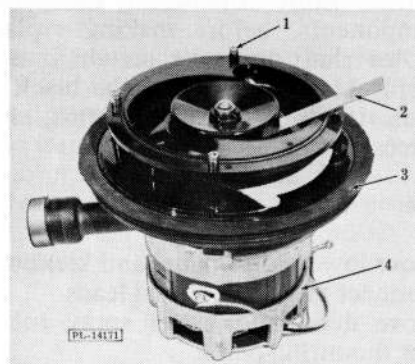

Fig. 32
4. Position the lower pump housing so the upper spray supply hole is directly above the rubber overhead connector. The recesses in the lower pump housing must be in alignment with the motor mounting plate bosses over the drain housing. NOTE: Assemble the four bearing spacers (Part No. A-102652) (1, Fig. 32) furnished in the kit on top of the lower pump housing with four retaining screws removed in disassembling the wash arm support.
5. Assemble wash pump impeller making sure it engages the drain pump impeller. Assemble spring washer, cap washer, key washer, and retaining screw in proper sequence and tighten screw. NOTE: Check wash pump impeller spacing with shim gauge (TL-91042) (2, Fig. 32) beneath vane of wash pump
Motor (4, Fig. 32)
5. Make sure motor mounting plate gasket (3, Fig. 32) seals the tank.